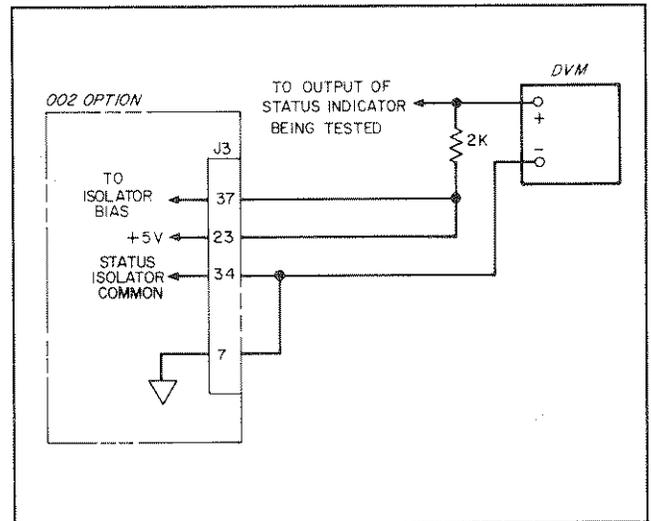

Figure A-13. Troubleshooting Status Indicators
A-80 Troubleshooting Status Indicators. The test set-up shown in Figure A-13 can be used to check each of the six status indicators. This set-up will temporarily defeat the isolation of the status lines. Before attempting to troubleshoot a status indicator, check for +5 V Bias for proper operation of the opto-couplers.
- Using test set-up, Figure A-13, connect to end of 2 k Ω resistor to J3-36.
- Using test set-up, Figure A-13, connect top end of 2 k Ω resistor to J3-35.
- Using test set-up, Figure A-13, connect top end of 2 k Ω resistor to J3-17.
- a. Using test set-up, Figure A-13, connect to end of 2 k Ω to J3-18.
- a. Using test set-up, Figure A-13, connect top end of 2 K Ω resistor to J3-19.
- d. Using test set-up, Figure A-13, connect top end of 2 k Ω resistor to J3-16.